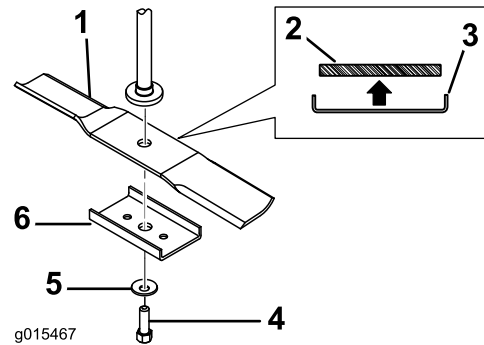
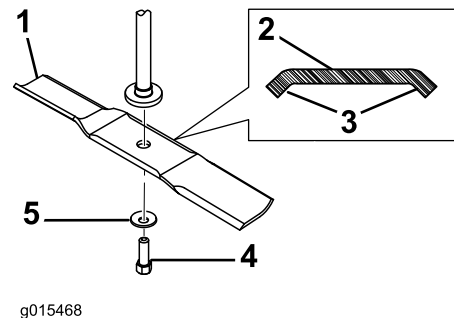

Figure 2
Figure 3
- Choose the style of blade, of those shown in Figure 2 and Figure 3 that best matches the blades on